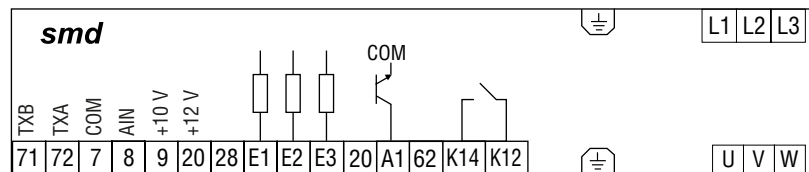

Figure 1: *smd* Control Strip
Only standard **smd** models with an “L” as the eighth digit in the model number (ex. ESMD371L4TXA) are equipped with Modbus RS-485 capabilities. When using this feature the drive can communicate with a personal computer (PC), programmable logic controller (PLC), or other external device that utilizes Modbus RS-485 serial communication for control or monitoring. Refer to the **smd** Operating Instructions (SL03) for connection details. Figure 1 illustrates the **smd** control strip. Terminals 7 (COM), 71 (TXB) and 72 (TXA) are used for RS485 communication.